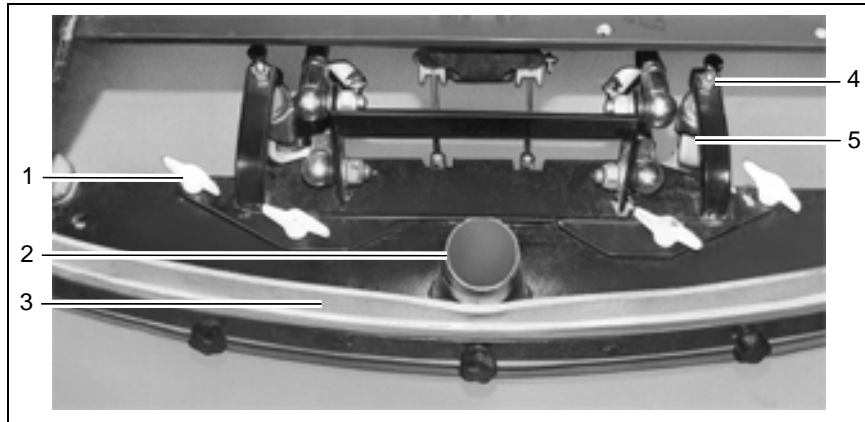

Fig. 10
5. Slide the squeegee from the rear under the lowered holding attachment and fix the squeegee to it with the four wing nuts (Fig. 10/1).
6. Attach the suction hose to the connection nozzle (Fig. 10/2) of the squeegee.
The squeegee must be set up on a level floor according to the conditions in which it is to be used. The squeegee must stand vertically on the floor (adjusted at the factory). The sealing strip (Fig. 10/3) should bend slightly to the rear when the vehicle is in operation. Supporting rollers (Fig. 10/5) limit its movement toward the floor. These support rollers must be adjusted in order to raise the contact surface of the squeegee:
- Loosen the conternuts (Fig. 10/4) and raise the supporting rollers on the left and right evenly (turn screw counterclockwise and lock again).